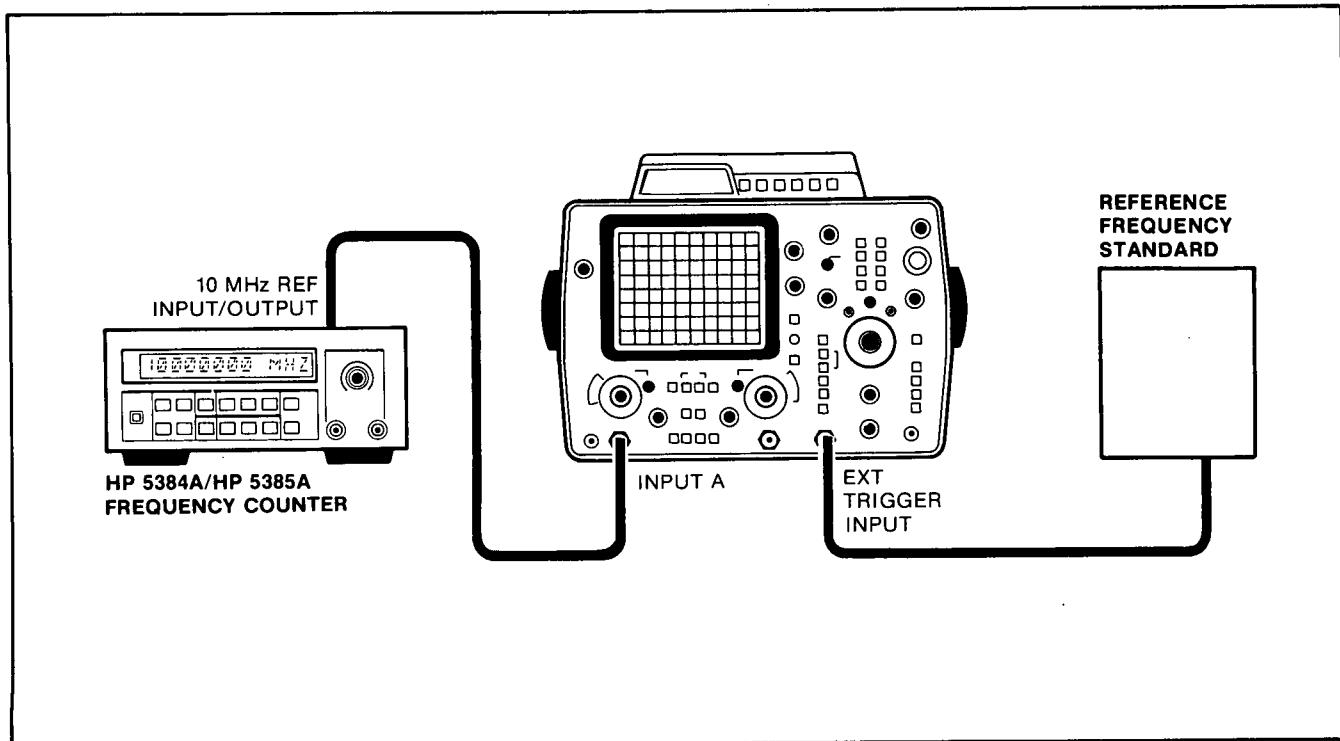

Figure 5-6. Standard, TCXO and Oven Oscillator Test Setup
- a. Connect a house standard (reference frequency) to the EXT TRIGGER input of an HP 1740A Oscilloscope as shown in *Figure 5-6*. Set the HP 1740A oscilloscope to EXT (trigger).
- b. Connect the HP 5384A/HP 5385A rear panel 10 MHz REFERENCE IN OUT to the channel A input of the HP 1740A oscilloscope as shown in *Figure 5-6*.
b. Connect a house standard (reference frequency) to Channel A of the HP 5384A/HP 5385A as shown in Figure 5-6.
c. Connect a house standard (reference frequency) to the EXT TRIGGER input of an HP 1740A oscilloscope as shown in Figure 5-6. Set the 1740A Oscilloscope to External Trigger.
d. Connect the HP 5384A/HP 5385A rear panel 10 MHz REFERENCE IN OUT to the Channel A input of the HP 1740A oscilloscope as shown in Figure 5-6.